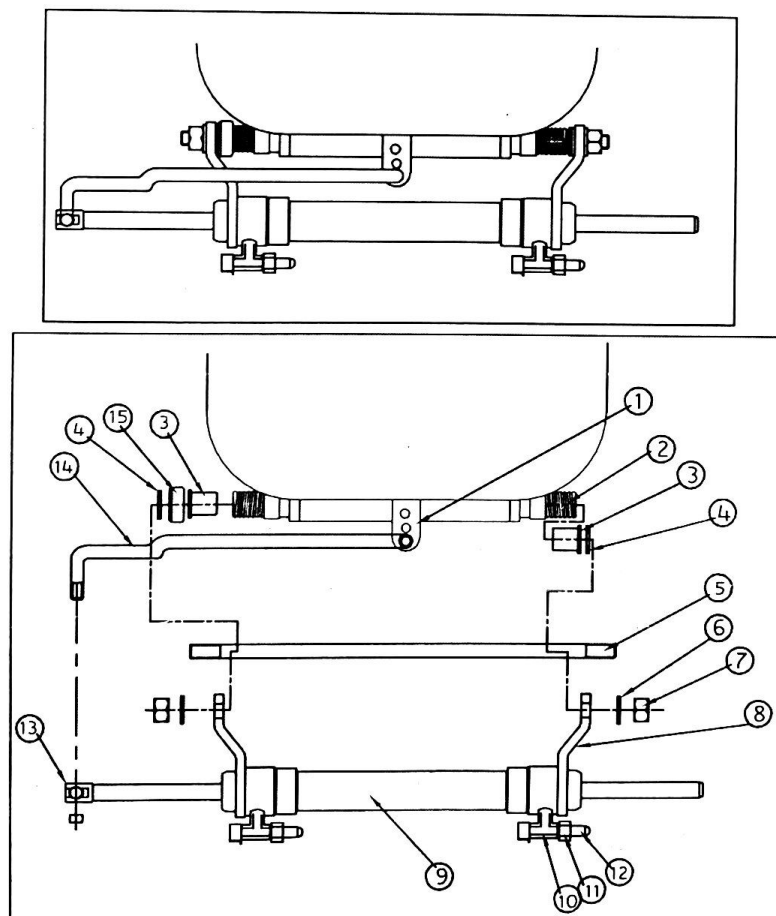

Figure 2
**Step1.**Use recommended grease to lubricate all threads and tilt tube (Figure2#7) .Put the engine on the middle position and remove stud on the fixed board of cylinder.